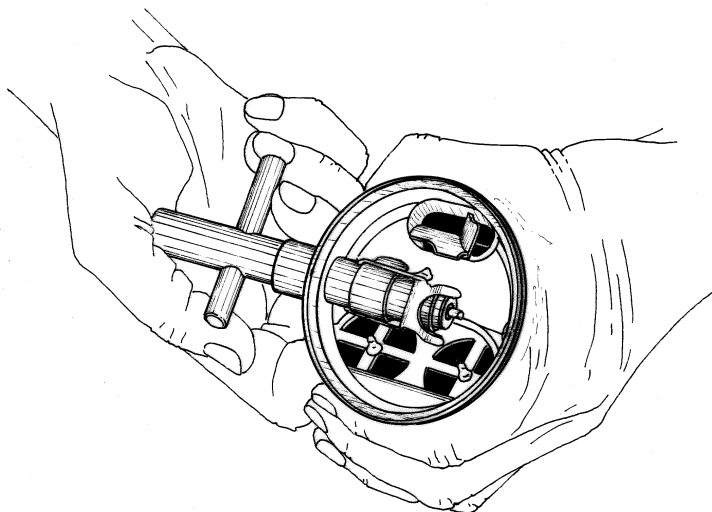
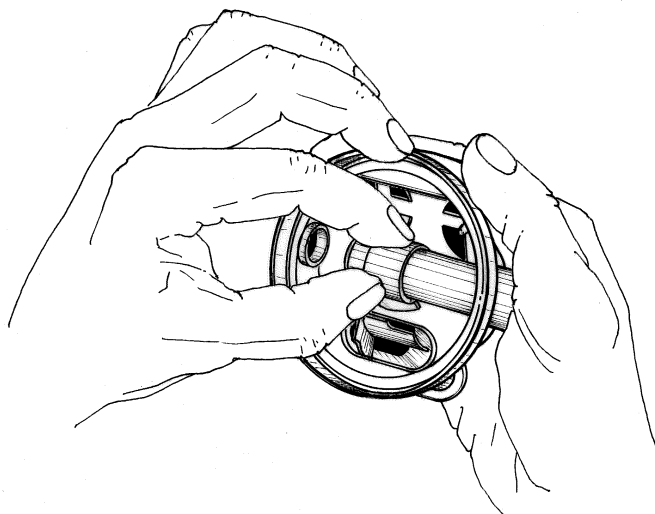

FIG. 1
FIG. 2
11. Back off the retaining nut (19) from the seat connector (21).
12. Insert the multi-purpose tool (B-34) into the 2nd stage case and press on the poppet seat holder. (Fig. 1)
- 13. Remove the lever (9) that has thus been loosened, releasing one side at a time from the support chamber.
- 14. Keeping the multi-purpose tool inside the 2nd Stage case (see Fig. 1), remove the adjusting screw (11), rotating the poppet seat holder in a clockwise direction until the adjusting screw (11), the poppet seat holder (17) and its spring (16) are released from the outer end of the poppet seat support chamber.
- 15. Remove the poppet seat (18) from the poppet seat holder (17).
- 16. Remove the Venturi flow control ring (10), sliding it outward from the end of the seat connector support housing. (Fig. 2)
8. Keep the multi-purpose tool inserted in the 2nd Stage case as shown in (Fig. 1) and press on the poppet seat holder (17) so that about 3/8" of the stem protrudes from the adjusting screw (11).